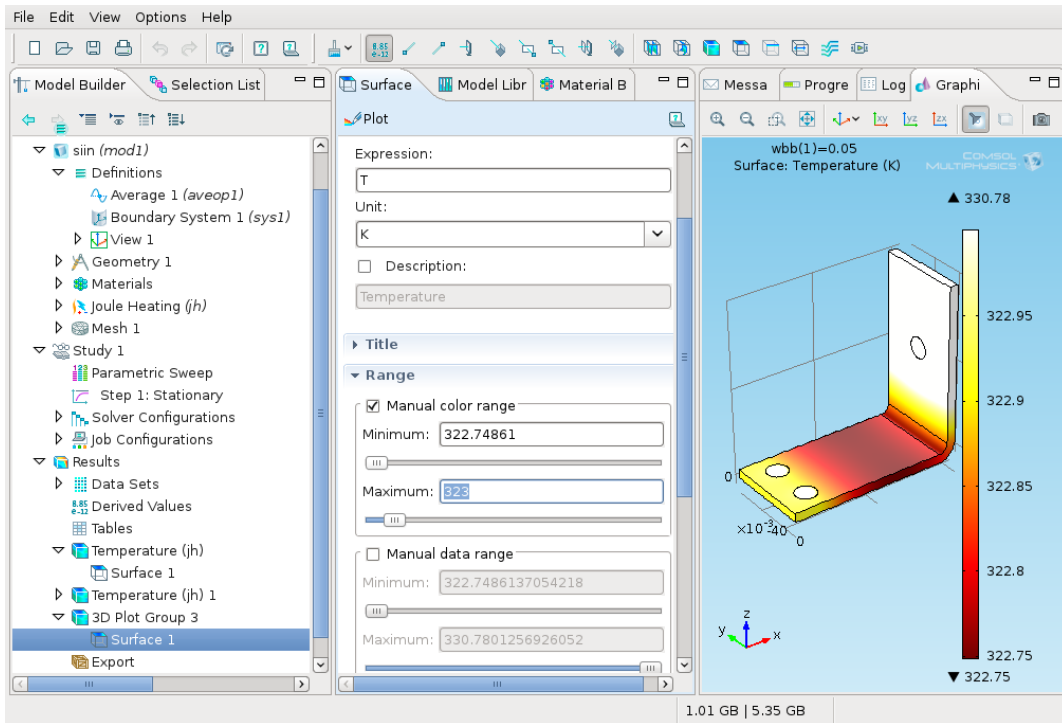

Figure 35: Changing the temperature plot for the 5 cm wide busbar.
- 6 To adjust the temperature limits closer to the wide busbar: *3D Plot Group 3* → *Surface 1* → *Range* → *Manual color range (x)* → *Maximum = 323* (Fig. 35).